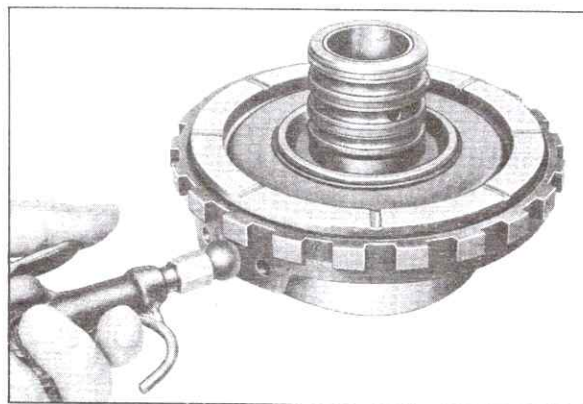

Fig. 7-76 Air Checking Intermediate Clutch
7. Air check operation of intermediate clutch piston. Apply air through center oil feed hole to actuate clutch piston, Fig. 7-76.